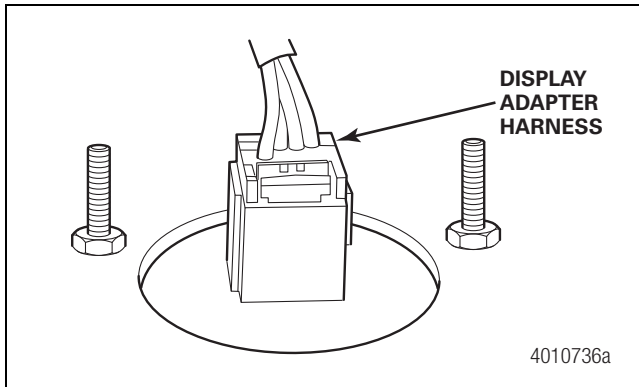

Figure 3.2
2. Make sure the ignition is in the OFF position. Disconnect the wiring connector from the display. Figure 3.2.